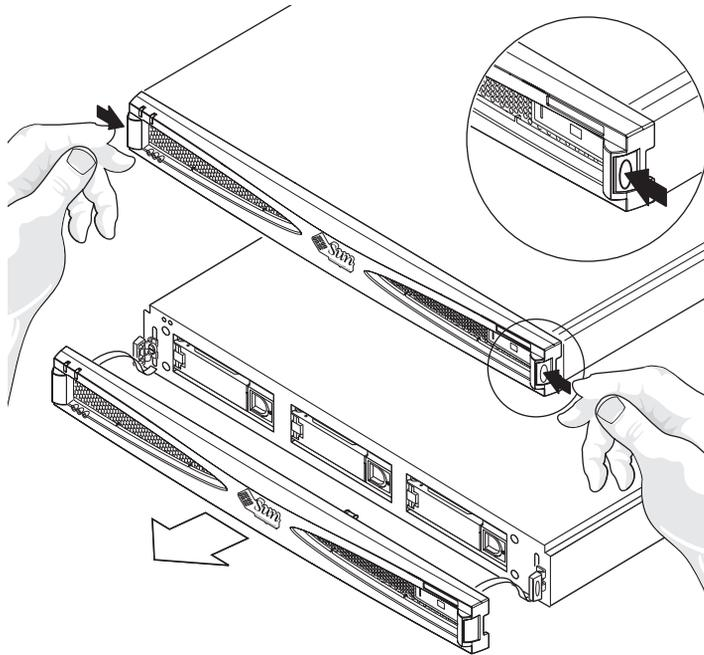

FIGURE 4-1 Removing the Front Bezel
- **Release the front bezel by pressing the latches on both ends and pulling the bezel away from the enclosure (see FIGURE 4-1).**
3. Release the front bezel by pressing the latches on both ends and pulling the bezel away from the enclosure (FIGURE 4-1).